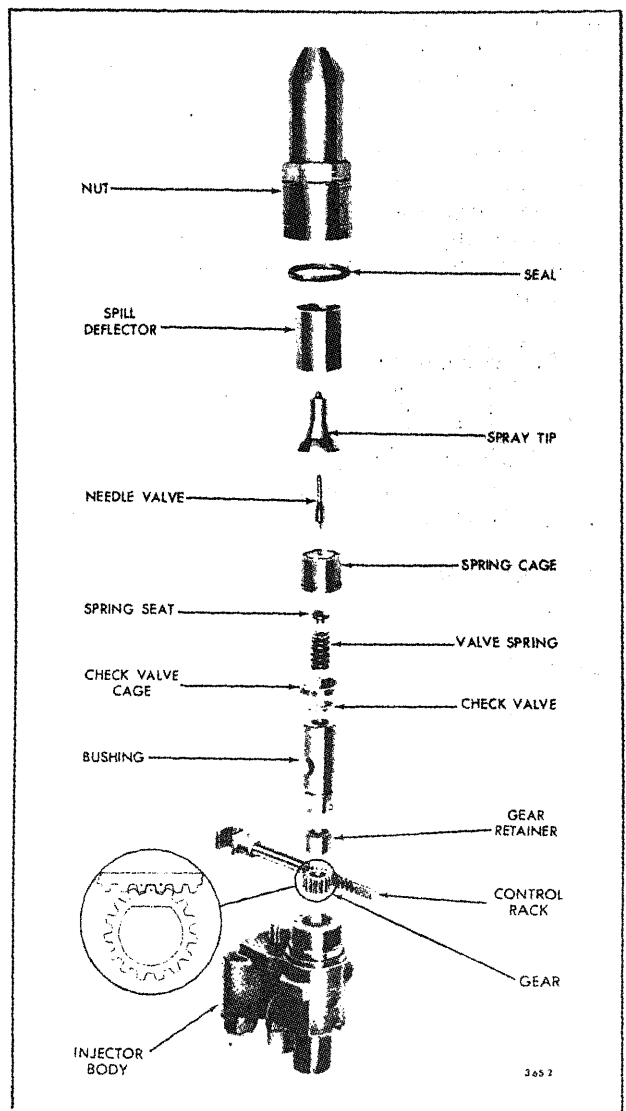

Fig. 36 - Injector Rack, Gear, Spray Tip and Valve Assembly Details and Relative Location of Parts
Refer to Fig. 36 and remove the spill deflector. Lift the bushing straight out of the injector body.
Refer to Fig. 36 and note the drill spot marks on the control rack and gear. Then proceed as follows:
2. Place the gear in the injector body so that the marked tooth is engaged between the two marked teeth on the rack (Fig. 36).
Refer to Fig. 36 and assemble the parts as follows: